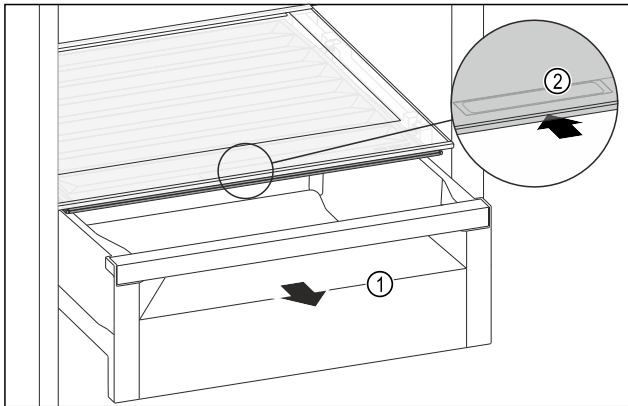

Fig. 81
- Pull out the drawer Fig. 81 (1).
- Grip the handle recess Fig. 81 (2) on the lid while pulling the lid backward at the same time.